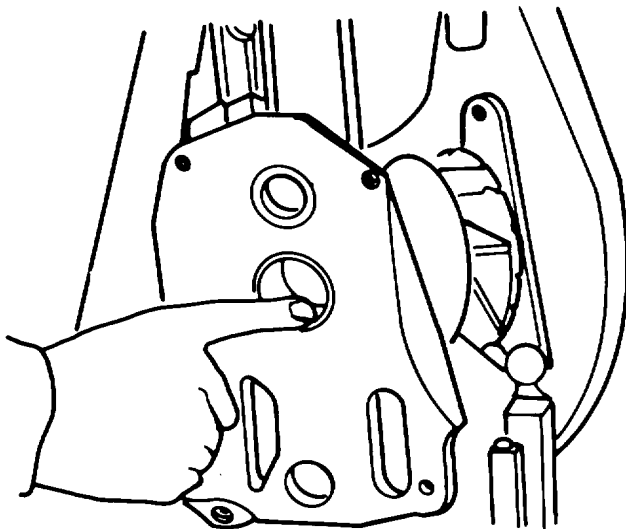

Figure A-31. Crankshaft
a. **Crankshaft.** Wipe a little oil on the surface of the governor side main bearing. Carefully, slide the crankshaft into the housing. (Figure A-31.)